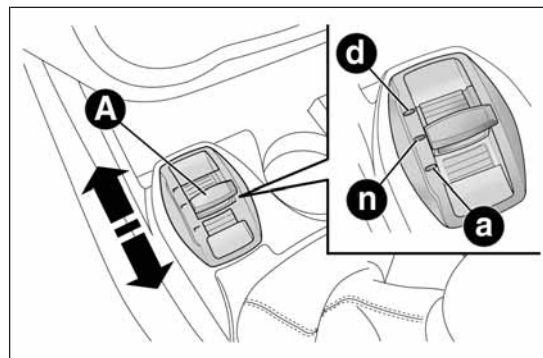

fig. 74
This device allows, using lever A fig. 74 (on the central tunnel), three car response modes to be selected according to driving style and road conditions:
Move the lever A fig. 74 upwards (next to the letter “d”) and hold in this position for 0.5 seconds until the corresponding LED lights up or the word “Dynamic” appears on the display (see fig. 77).
Move lever A fig. 74 downwards (to the letter "a") and hold in this position for 0.5 seconds until the corresponding LED lights up or the word "All Weather" appears on the display (see fig. 79).
To deactivate "All Weather" mode and return to "Natural", carry out the same procedure described for "Dynamic" mode, but move lever A fig. 74 to "a".
- ☐ In the event of system failure or a fault with lever A fig. 74, no driving modes can be selected. The display will show a warning message.